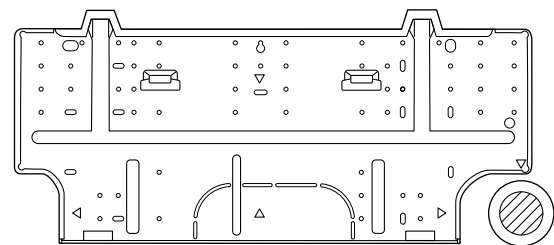

Fig. 3-19
- (1) Attach the rear panel to the wall with the 8 screws provided. (Fig. 3-19)